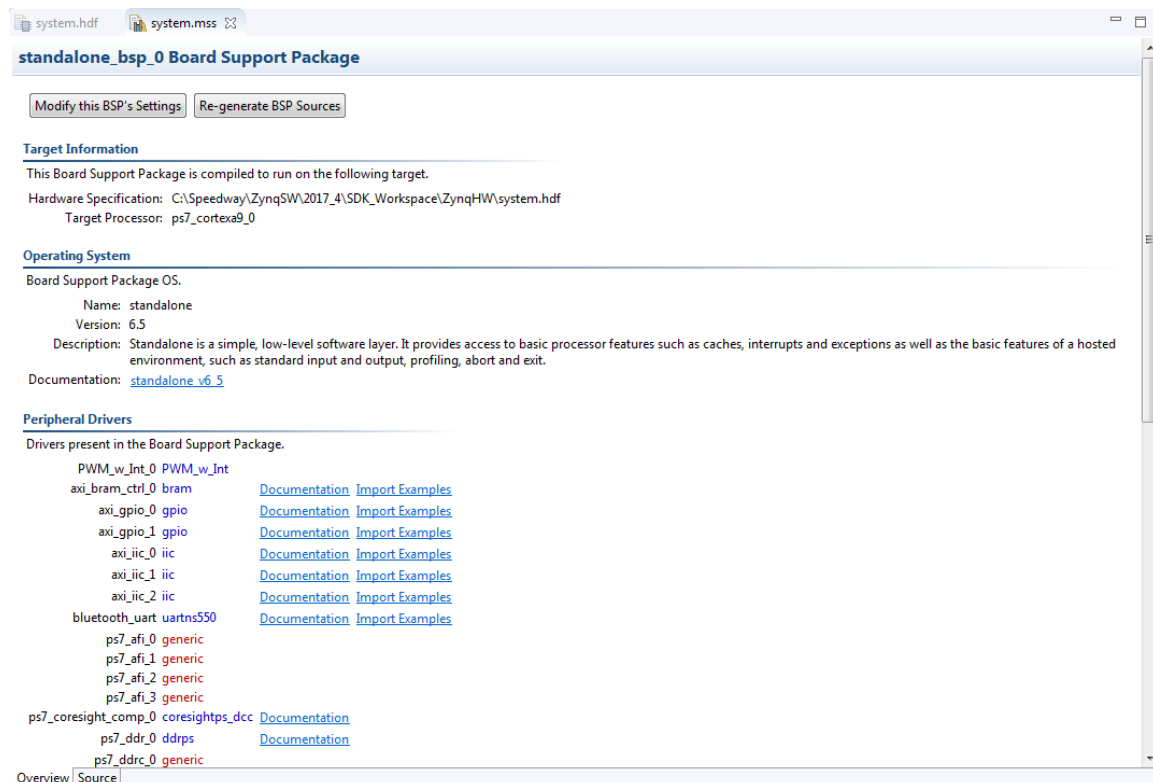

Figure 8 – BSP Report
1. Under the *Operating System* section, click on the hyperlink for **standalone_v6_5** to open the PDF documentation for Standalone. Browse to the Cortex A9 Processor API chapter. This document is UG647 and simply click on the “Cortex A9 Processor API” as shown in Figure 8 below. The Zynq ARM Cortex A9 specific APIs are shown here. Close the PDF when finished.